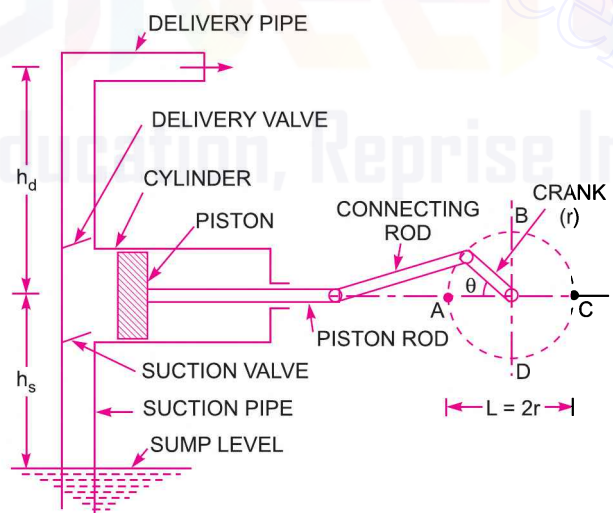

Fig. 20.1 Main parts of a reciprocating pump.
The following are the main parts of a reciprocating pump as shown in Fig. 20.1 :
Fig. 20.1 shows a single acting reciprocating pump, which consists of a piston which moves forwards and backwards in a close fitting cylinder. The movement of the piston is obtained by connecting the piston rod to crank by means of a connecting rod. The crank is rotated by means of an electric motor. Suction and delivery pipes with suction valve and delivery valve are connected to the cylinder. The suction and delivery valves are one way valves or non-return valves, which allow the water to flow in one direction only. Suction valve allows water from suction pipe to the cylinder which delivery valve allows water from cylinder to delivery pipe only.
**20.3.1 Discharge Through a Reciprocating Pump.** Consider a single\* acting reciprocating pump as shown in Fig. 20.1.